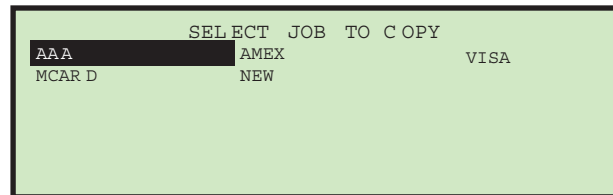

Figure 45: Select Job To Copy screen
1. On the Job Menu screen (Figure 25), select COPY, and press Enter. The SELECT JOB TO COPY screen appears (Figure 45).